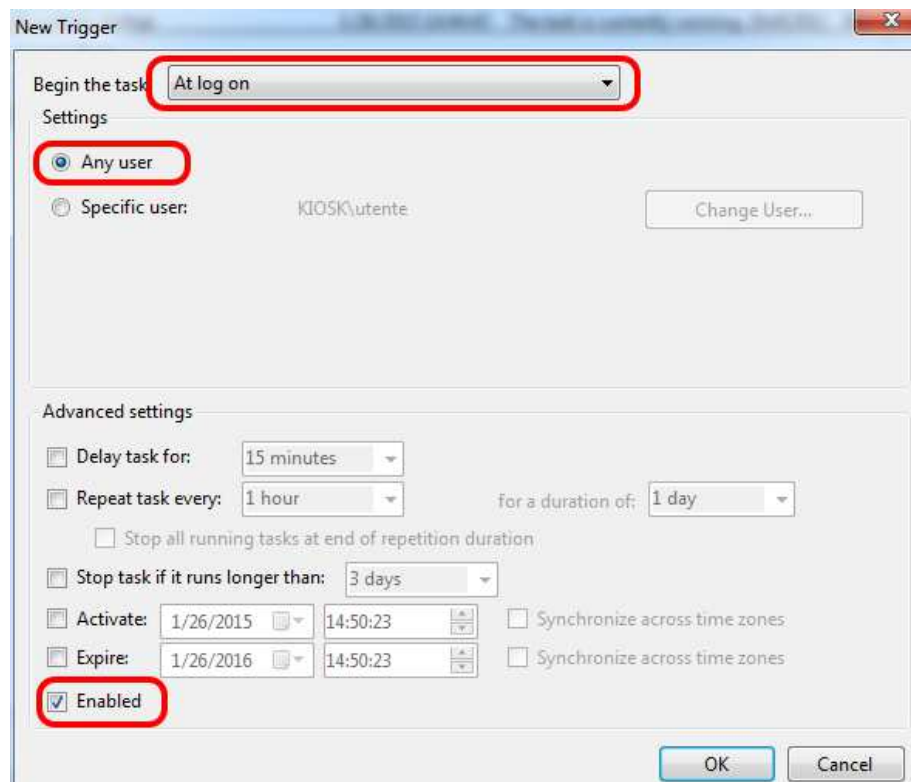

Fig. C.27: New Trigger configuration
STEP 4 – In *Create Task* window please select *Tab Triggers* to create a new trigger. Select *At log on* and *Any user*. Be sure *Enabled* checkbox is selected (Fig. C.27).